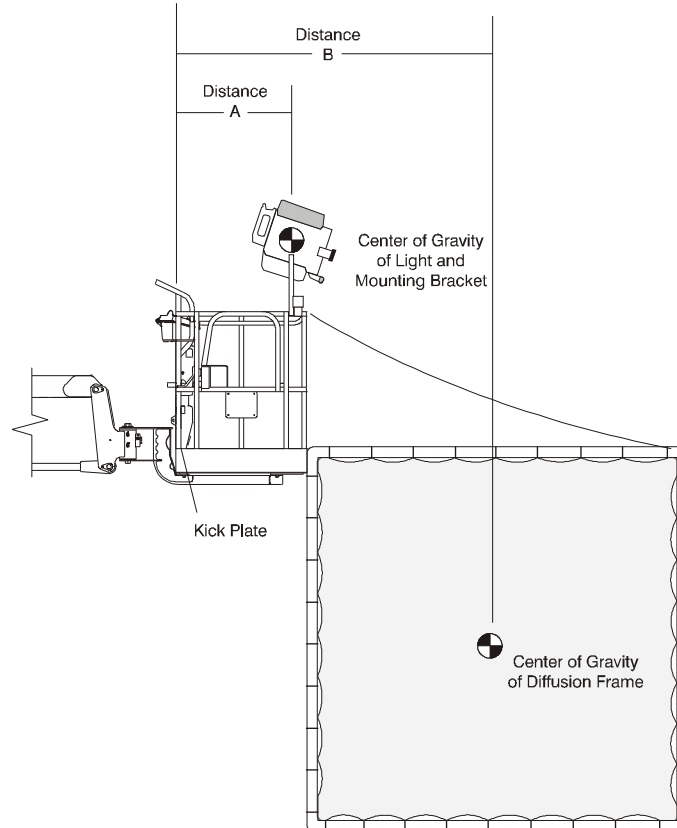

Figure 2-1. Figuring Capacity Reduction
2. Subtract the load applied to the platform by the attachment of additional movie production equipment (as shown in the following illustration) by using Table 2-1, Platform Capacity Reduction Chart - 400S, 400S HC3, 450A, 600A, 600S, 600S HC3, 800A, 800S, 800S HC3 or Table 2-3, Platform Capacity Reduction Chart - 460SJ, 460SJ HC3, 600AJ, 600AJ HC3, 660SJ, 660SJ HC3, 670SJ Self Leveling, 800AJ, 800AJ HC3, H800AJ, 860SJ, 860SJ HC3, 1200SJP, 1250AJP*, 1350SJP, 1500AJP, 1500SJ, 1850SJ as applicable. (Refer to Figure 2-1., Figuring Capacity Reduction for attachment details.)
EXAMPLE: This example will use Table 2-1 and Figure 2-1. Assume the weight of the lighting equipment, cables, and mounting hardware is 83 pounds. The distance from the kickplate to the CG (Center of Gravity) of the equipment (Distance A or Distance B) is 33 inches. The weight of the equipment must be rounded up to the next highest figure in the left column, which is 100 pounds and the distance to the kickplate must be rounded up to the next highest figure at the top of the chart which is 36 inches. Using these figures on the chart, we see that the Rated Load must be reduced by 161 pounds. On a platform with 500 pounds capacity, the new rated capacity would be 500 pounds - 161 pounds = 339 pounds.